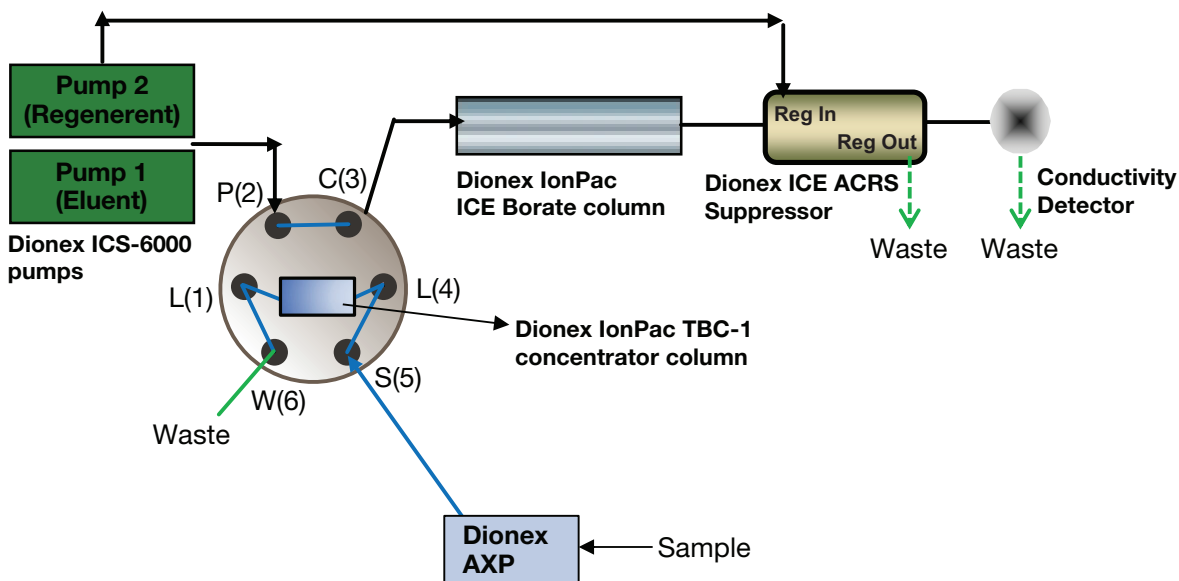

Figure 1. System configuration (valve in the LOAD position)
The Dionex ICS-6000 HPIC system is configured with a conductivity detector (CD) and a column oven. Install the concentrator, analytical column, and suppressor in the chromatography module as shown in Figure 1. Follow the instructions in the suppressor manual to install the Dionex ACRS-ICE 500 Suppressor.⁴
For the best chromatography, install the concentrator column with a short piece of tubing into Port 4 (between Ports C and S) and a longer piece of tubing as needed in Port 1 (between Ports P and W). Align the direction of the column by pointing the arrow on the label of the concentrator column from Port 1 to Port 4. It is critical to minimize the effect of band broadening when using a preconcentration technique. To minimize the dead volume that causes band broadening, use the smallest length possible of red 0.005 in (0.125 mm) PEEK tubing between the outlet of the Dionex IonPac TBC-1 column and Port 4. Connect the Dionex AXP pump to Port 5 of the injection valve as shown in Figure 1. The Dionex AXP pump is used
For trace-level analysis, a preconcentration technique is used. The chromatographic conditions are listed in Table 2. In this technique, a concentrator column is installed in place of the sample loop, as shown in Figure 1. Concentrator columns are short columns (typically 35–50 mm in length) containing a stationary phase that is identical or similar to the analytical column used for the analysis, or, as is the case here, selective for a specific analyte or class of analytes. The function of a concentrator column is to “strip” ions from a measured volume of a relatively clean aqueous sample matrix. This process “concentrates” the desired species, which leads to lower detection limits. The advantage of using concentrator columns is the ability to perform routine analysis for ions at $\mu\text{g/L}$ (ppb) and sub- $\mu\text{g/L}$ levels without extensive and laborious sample pretreatment. The concentrator column used here is the Dionex IonPac TBC-1 column. The borate chromatographic system shown in Figure 1 is easy to use and significantly improves the practicality and reliability of trace borate determinations. The sample is first passed over the Dionex IonPac TBC-1 concentrator column. The Dionex IonPac TBC-1 column packing is a 10 μm , styrene-based resin bearing hydroxyl functional groups that concentrate borate